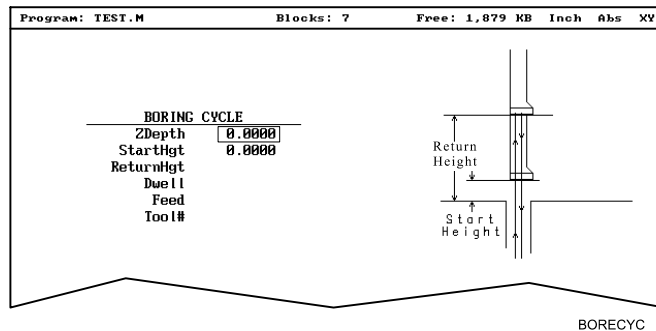

Figure 5-3, BORING CYCLE Graphic Menu
2. Highlight **Boring**, and press **ENTER** to display the **BORING CYCLE** Graphic Menu. Refer to **Figure 5-3**.